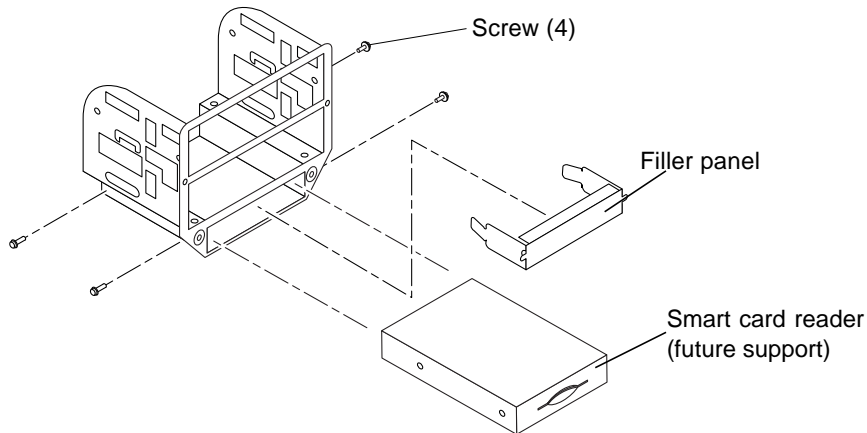

FIGURE 7-4 Removing and Replacing the Smart card reader (future support)
1. **Position the peripheral assembly on a flat surface so that the smart card reader is flat (FIGURE 7-4).**